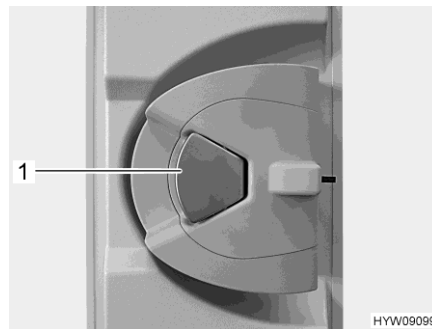

Fig. 42 Door lock (conversion door, inside)
- Opening:* ■ When the door lock is locked: Pull once at the door handle (Fig. 42,1). The door is unlocked.
- Pull on the door handle (Fig. 42,1). The door is open.
- Locking:* ■ Push the door handle (Fig. 42,1).